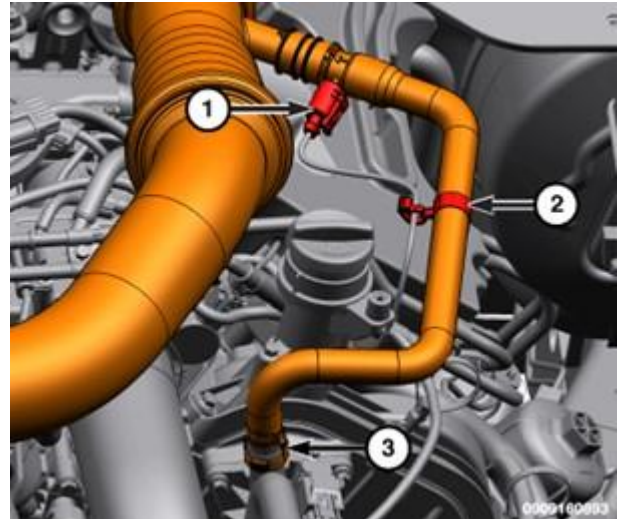

Figure 76 – CCV Harness Retainer and Connector
- 129. Attach the Closed Crankcase Heater Ventilation (CCV) heater wire harness retainer (2) (Figure 76).